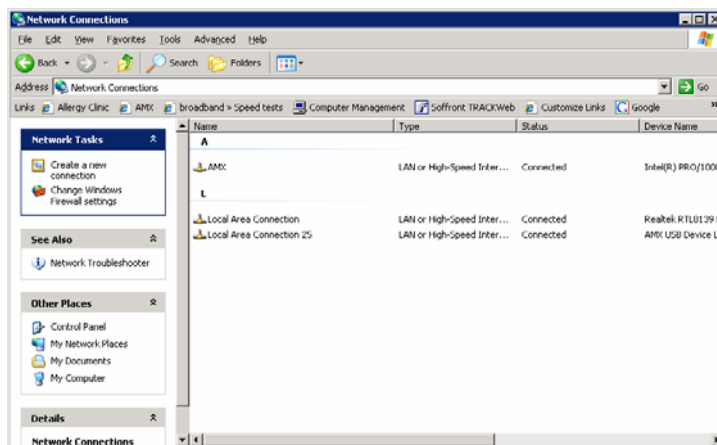

FIG. 109 Network Connections window
2. In the *Control Panel* window, click on the **Network Connections** icon to open the Network Connections window (FIG. 109)